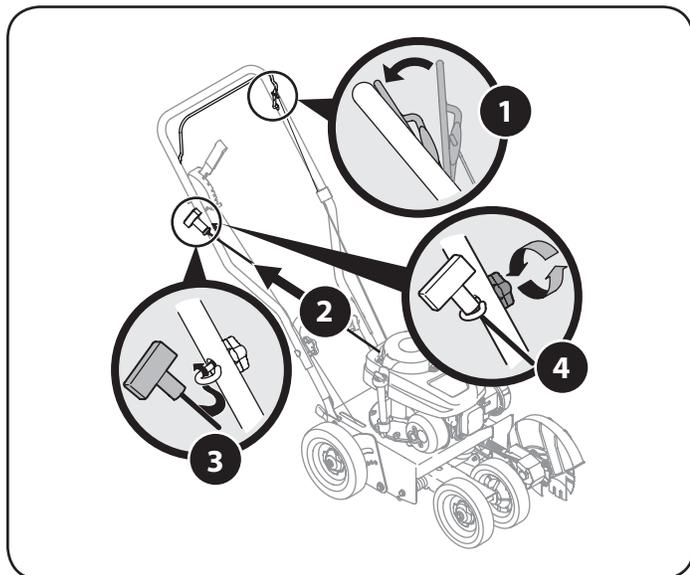

Figure 5
1. Locate the rope guide and wing knob found in the manual bag. Using the wing knob, secure but do not tighten the rope guide to the right side of the upper handle as shown in Figure 5.
**NOTE:** The starter rope will not pull out of the engine unless the blade control (refer to Figure 5) is depressed against the upper handle.